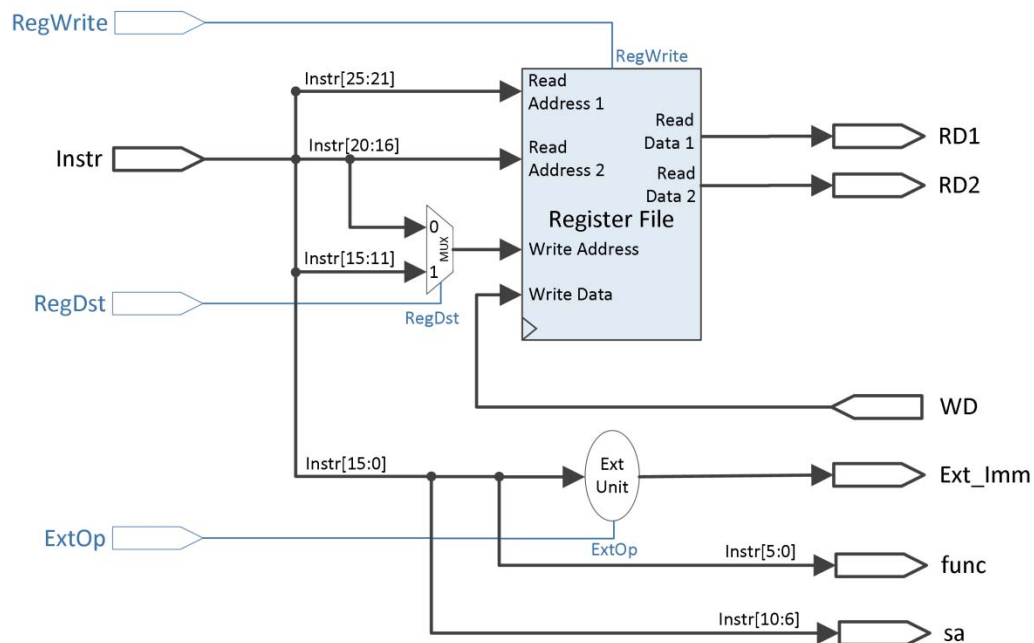

Figure 6-5: Instruction Decode Data-Path for MIPS 32
The data-path of the Instruction Decode Unit is presented in Figure 6-5.
Taking into account the instruction decode data-path from Figure 6-5 design a new component (new entity) in the “test\_env” project for your own single-cycle MIPS 16. All the data fields are 16-bits wide.
The ID entity will contain the hardware components described in Figure 6-5, that will not be implemented with other components (use behavioral VHDL description), except for the Register File (see laboratory 3).
**Attention!** Be careful when transforming the data fields from Figure 6-5 (MIPS 32) into your own single-cycle MIPS 16 implementation.